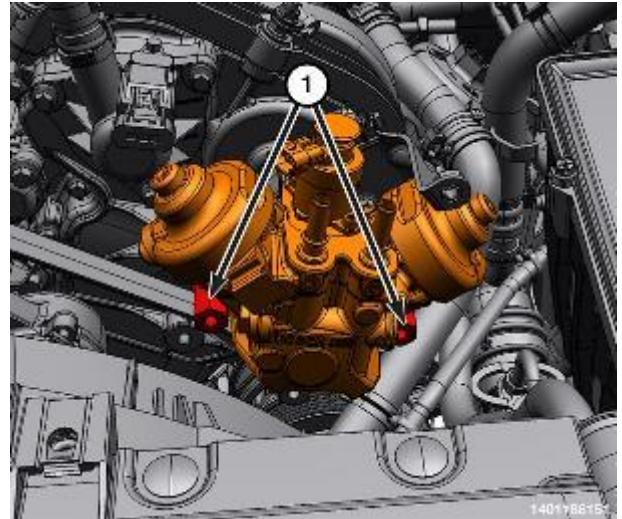

Figure 188 – HPFP Upper Bolts
- 30. Remove the upper bolts (1) from the high-pressure pump (Figure 188). Using Tool, High Pressure Pump Installation VM.10345 Install the studs in the upper locations.
42. Remove the Tool, High Pressure Pump Installation VM.10345 and install the high-pressure fuel injection pump upper bolts (Figure 188).